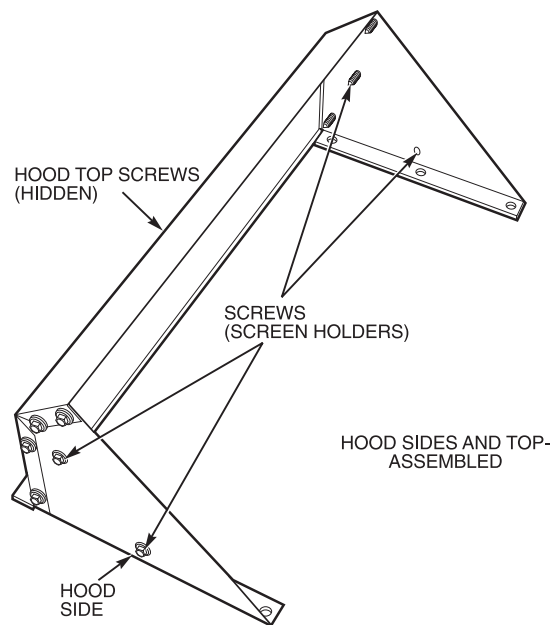
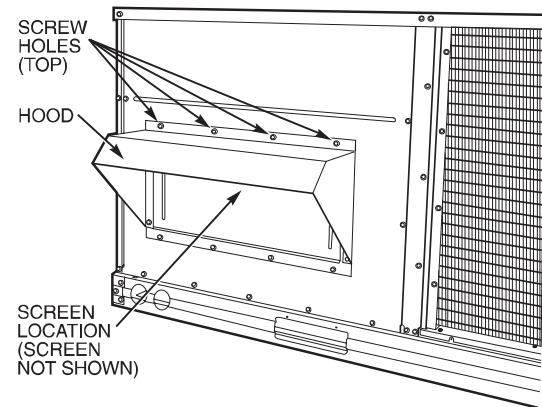

Fig. 14 — Outdoor-Air Hood Details
Fig. 15 — Outdoor-Air Damper with Hood Attached
5. Place hood on front of outdoor air opening panel. See Fig. 14 for hood details. Secure top of hood with the 4 screws removed in Step 3. See Fig. 15.
7. Align screw holes on hood with screw holes on side of manual outdoor-air damper. See Fig. 14 and 15. Secure hood with 6 screws from Step 6.
9. Remove and save screws currently on sides of hood. Insert screen. Secure screen to hood using the screws. See Fig. 15.